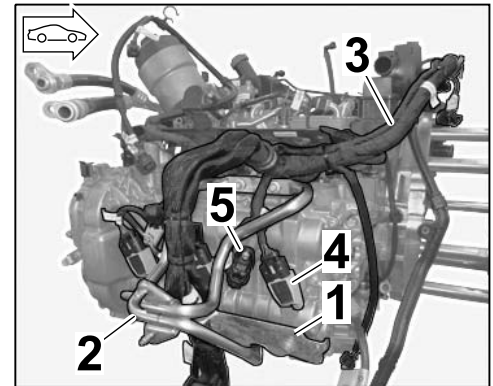

Figure 12
2.4.3 Install lower part of heat shield (2 x, ⇒ *Workshop Manual '261219 Removing and installing heat shield'*) and rear silencer holder (2 x, ⇒ *Workshop Manual '2601IN Components and arrangement of exhaust system'*) (⇒ *Figure 12*).
2.4.5 Connect plug connections to ignition coils (6 x) and sensors/senders/hydraulic valves (engine body/cylinder head area) (⇒ *Figure 12*).